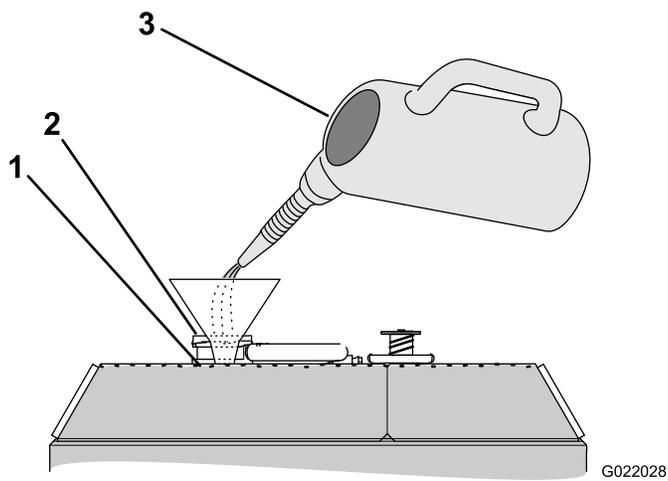

Figure 113
4. Fill the radiator with coolant until the fluid level is up to the bottom of the filler neck (Figure 113).